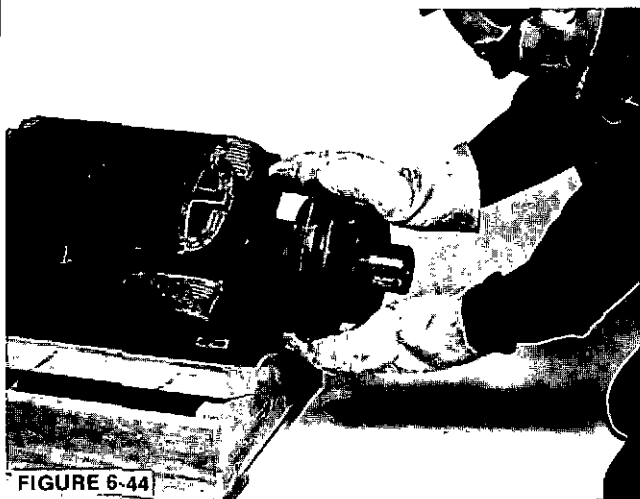

FIGURE 6-44
3. To insure proper fan location, mark the new hub in the same place as the old hub relative to the keyway. Install key in shaft. Heat the new hub in an oven to 500°-600°F (260°-316°C). Use suitable heat resistant gloves, slide the hub over the key in the shaft until it seats against the shaft shoulder. (Figure 6-44.)